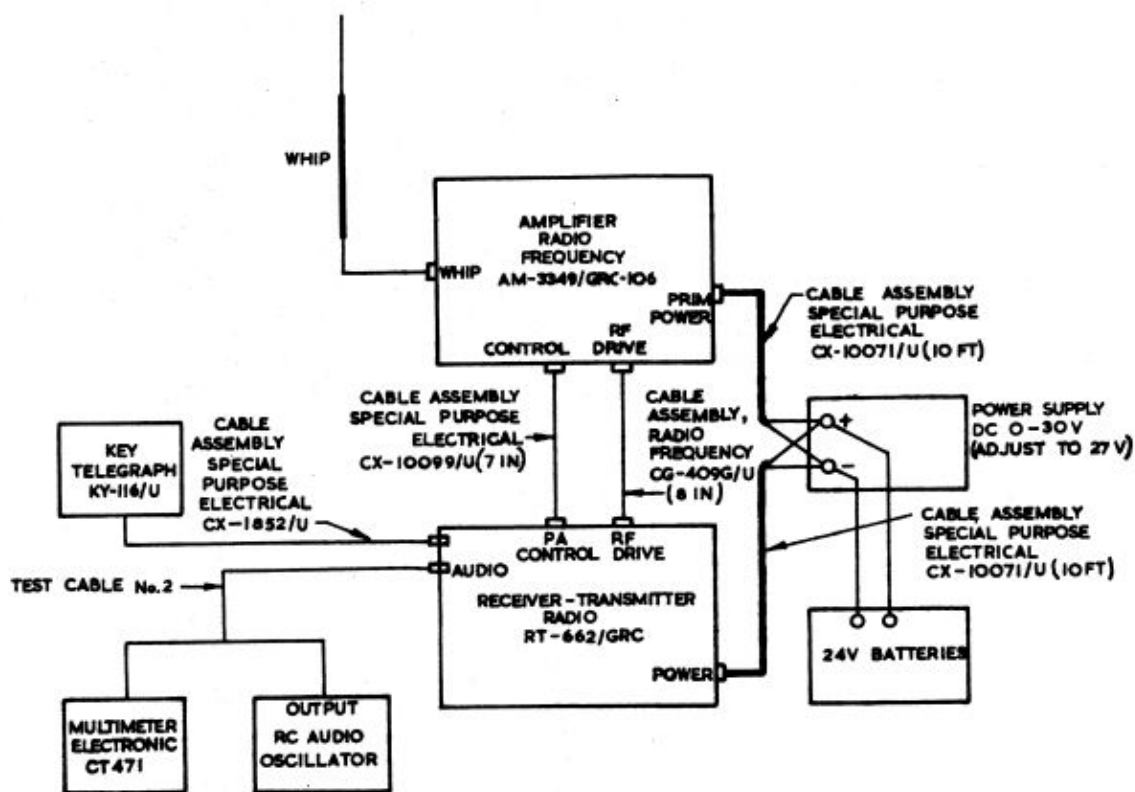

FIG 39 - ANTENNA COUPLER TUNING TEST, CONNECTION DIAGRAM
- a. Place the AM-3349/GRC-106 on top of the RT-662/GRC and connect all equipment as shown in fig 39 with this exception - connect the 15 foot whip in place of the 50 Ω dummy load.